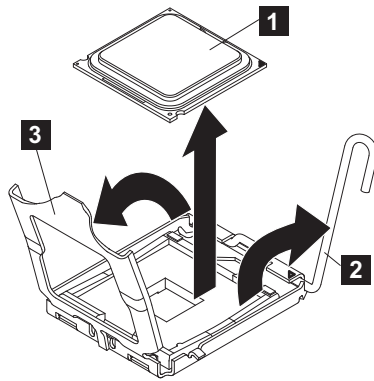

Figure 194. Opening the SAN Volume Controller 2145-DH8 microprocessor bracket frame
1. To open the socket in preparation for inserting the microprocessor, press down and out on the release lever (**2** in Figure 194 on page 238 as you did to remove the microprocessor, and lift the microprocessor-release lever until it stops in the fully open position.